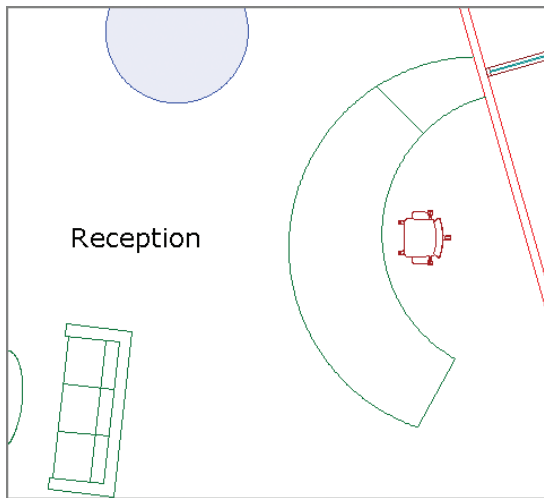

FIGURE 9.19 Inserting content from Autodesk Seek into a drawing
10. Delete the receptionist's chair, move the new chair into its place, and rotate it to face the room. Figure 9.19 shows the downloaded chair behind the receptionist's desk.